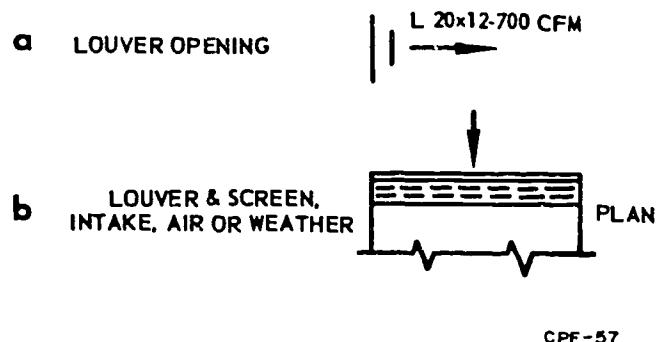

Figure 1-17. Symbols for louver and opening.
**Symbols for Louvers.** In figure 1-17, you can see two symbols used to identify louvers on working drawings. A louver is a series of sloping slats set in a frame or other opening to allow passage of air. In sheet metal work, louvers are used as ventilating slits to cover inlet and outlet openings in duct systems or exhaust fans. Louvers can be stationary, manual, or automatic type.
**Louver opening location symbol.** Location of a louver on a working drawing is identified by the symbols shown in a of figure 1-17. This symbol identifies the location only and does not designate the type of louver. The arrow indicates the direction of airflow. Notice that the louver symbol has two vertical lines, the same as for registers.
**Louver and screen.** The symbol, shown in b of figure 1-17, designates a weather or air intake louver screen. An example of the use of this symbol would be in a plan view of a duct system such as the weather-air intake of the return